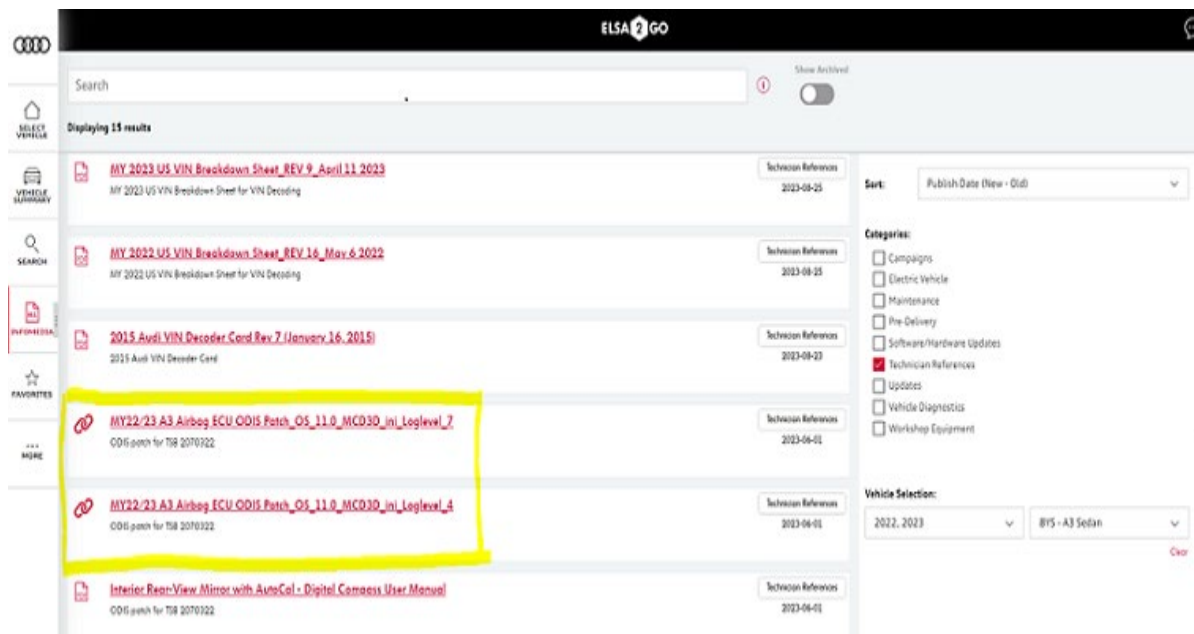

Figure 1: Both of the ODIS patch files are located in Elsa2Go.
3. If the configuration is still unsuccessful, an ODIS patch needs to be installed to ensure proper communication with the airbag control module. This ODIS patch consists of two files which are available in Elsa2Go (Figure 1):